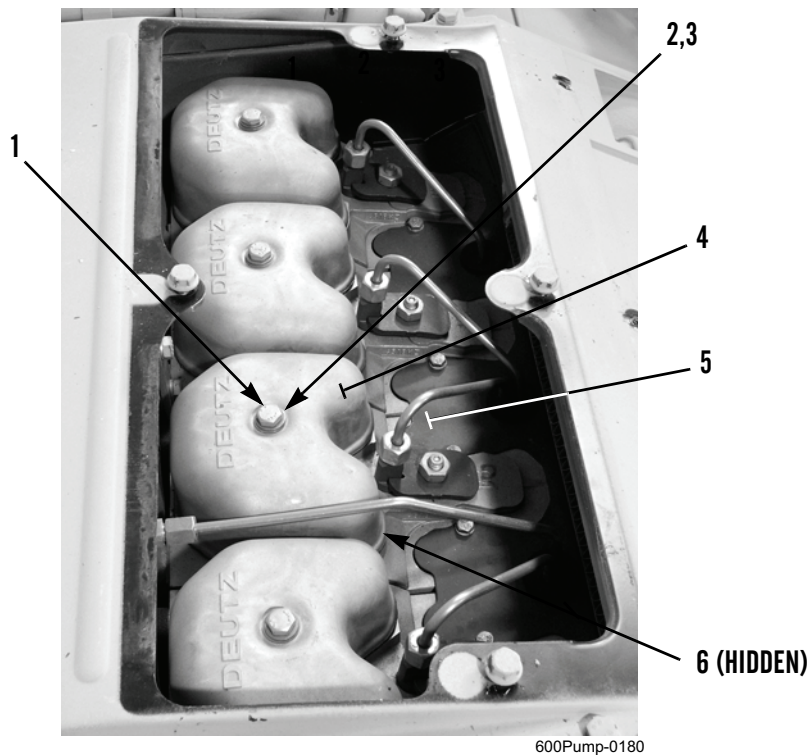

Figure 5. Valve Cover.
4. Apply silicone RTV compound to valve cover (Figure 5, Item 4). Install new gasket (Figure 5, Item 6) on valve cover.
5. Install valve cover (Figure 5, Item 4) on cylinder head (Figure 5, Item 5) with new sealing ring (Figure 5, Item 3), washer (Figure 5, Item 2), and bolt (Figure 5, Item 1). Tighten bolt to 10 lb-ft (13 Nm).